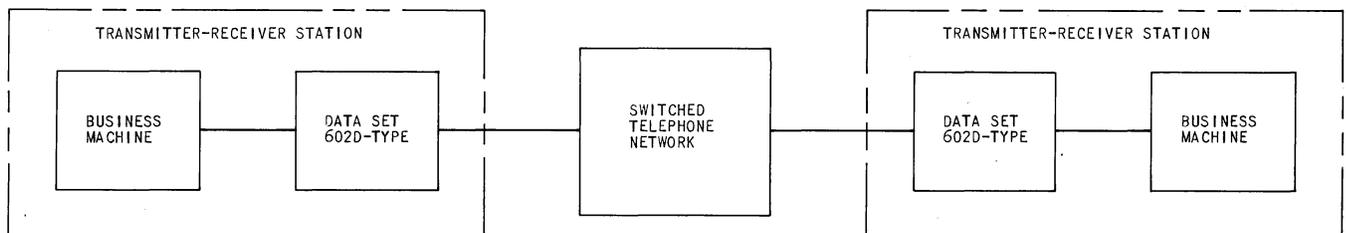

Fig. 1—Data Set 602D-Type, System Block Diagram
1.02 Figure 1 is a block diagram of a system employing the 602D.